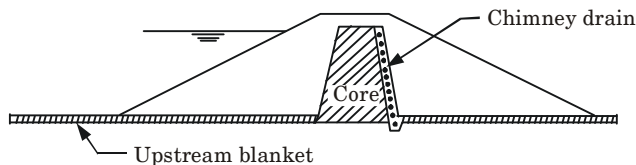

Fig. 2.23.1. Prevention of piping.
- i. The hydraulic gradient (i) depends upon the path of percolation (L). If the length of the path is increased, the exit gradient will decrease to a safe value.
- c. Providing an upstream impervious blanket, as shown in Fig. 2.23.1.
- ii. The quantity of seepage discharge is reduced by providing an impervious core, as shown in Fig. 2.23.1.
- iii. The drainage filter may be horizontal or in the form of a rock toe. It may also be in the form of a chimney drain, as shown in Fig. 2.23.1.
- iv. The loaded filter increases the factor of safety against heave piping. The factor of safety (F) is given by,